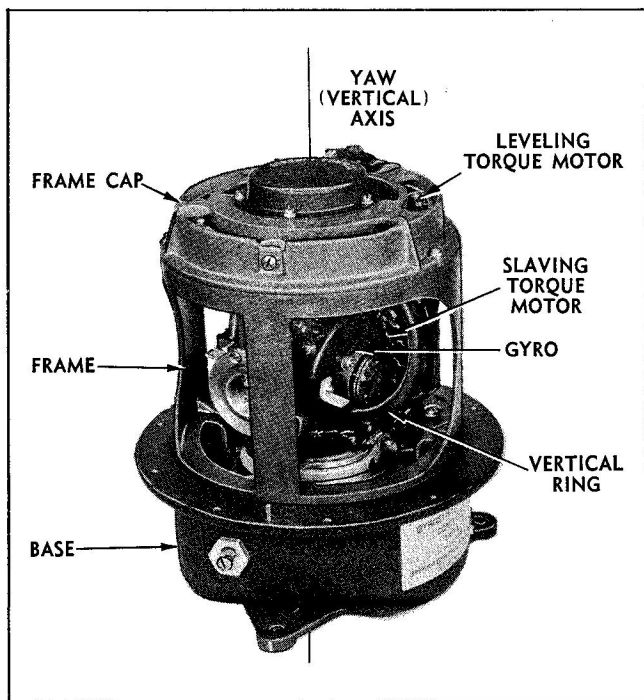
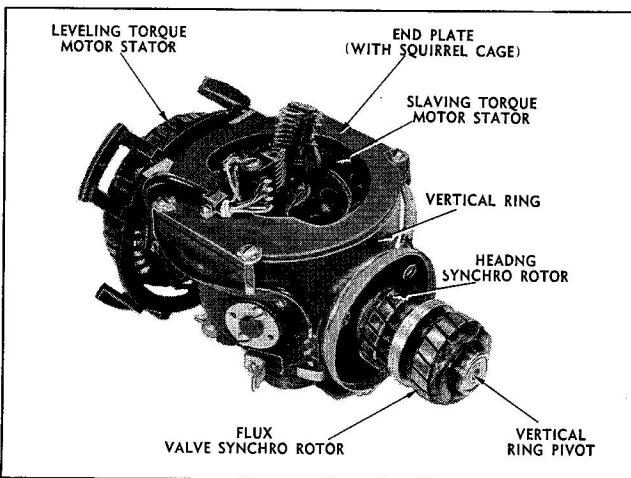
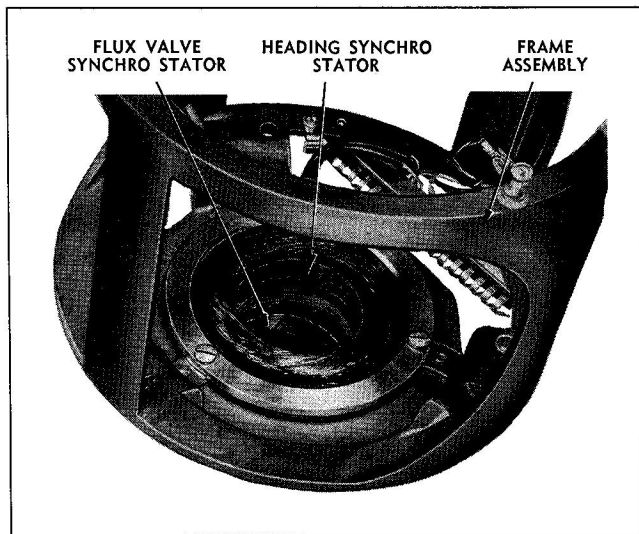

Figure 1-1 Directional Gyro Control
Figure 1-3 Vertical Ring Assembly
Figure 1-4 Synchro Stators in Frame
1. The Directional Gyro Control is essentially an electrically-driven gyro which is "slaved" (aligned) to the earth's magnetic field so as to provide a reference about its yaw (vertical) axis. (See figure 1-1).
(2) The leveling torque motor is a two-phase induction type with a squirrel cage rotor and a stator winding. Since the liquid level is in the horizontal plane and because the gyro is erected as a result of precession forces applied by the torque motor, it is necessary that the torque motor be mounted with its axis vertical; with the squirrel cage in the frame cap (figure 1-1) and the stator winding on the vertical ring (figure 1-3).
(3) Heading Synchro. Movement or deviation of the airplane about the yaw (heading) axis is detected by the relative motion between the rotor and stator of a heading synchro. The synchro rotor is attached to the vertical ring (figure 1-3) and the synchro stator is attached to the frame. (See figure 1-4.)
(1) The flux valve synchro stator (figure 1-4) is attached to the frame of the Directional Gyro Control. The flux valve synchro rotor (figure 1-3) is attached to the vertical ring.
(2) The slaving torque motor is a two-phase induction type with a squirrel cage rotor and a stator winding. The torque motor is mounted with its axis horizontal; with the squirrel cage (figure 1-3) in the vertical ring end plate and the stator winding on the gyro housing (figure 1-4).
spring-leaf contacts which ride on the dimples of the fixed leaf contacts. This assembly is fastened to the slaving torque motor bracket. The vertical ring and gyro assembly is mounted with two bearings (oil-lubricated, shielded) in the two bearings (oil-lubricated, shielded) in the frame assembly. The heading synchro rotor and flux valve synchro are fastened to the vertical ring pivot. (See figure 1-3.) The leveling torque motor stator is attached to the opposite side of the vertical ring, inside a bracket to which a compass card is attached. The card is calibrated for 360 degrees in increments of one degree.
(4) **Frame and Gyro Assembly.** (See figure 1-1). The frame assembly is a structure which serves as the outer suspension ring of the gyro assembly. The vertical ring and gyro assembly is supported in the frame by means of the frame cap and the frame and synchro assembly. The frame cap contains the squirrel cage (rotor) of the leveling torque motor and also the lubber line of the Directional Gyro Control. The thrust load for the vertical ring and gyro assembly is absorbed by a single thrust ball which rides between two anvils (thrust ball seats), one located in the frame and synchro assembly and the other in the vertical ring pivot recess.